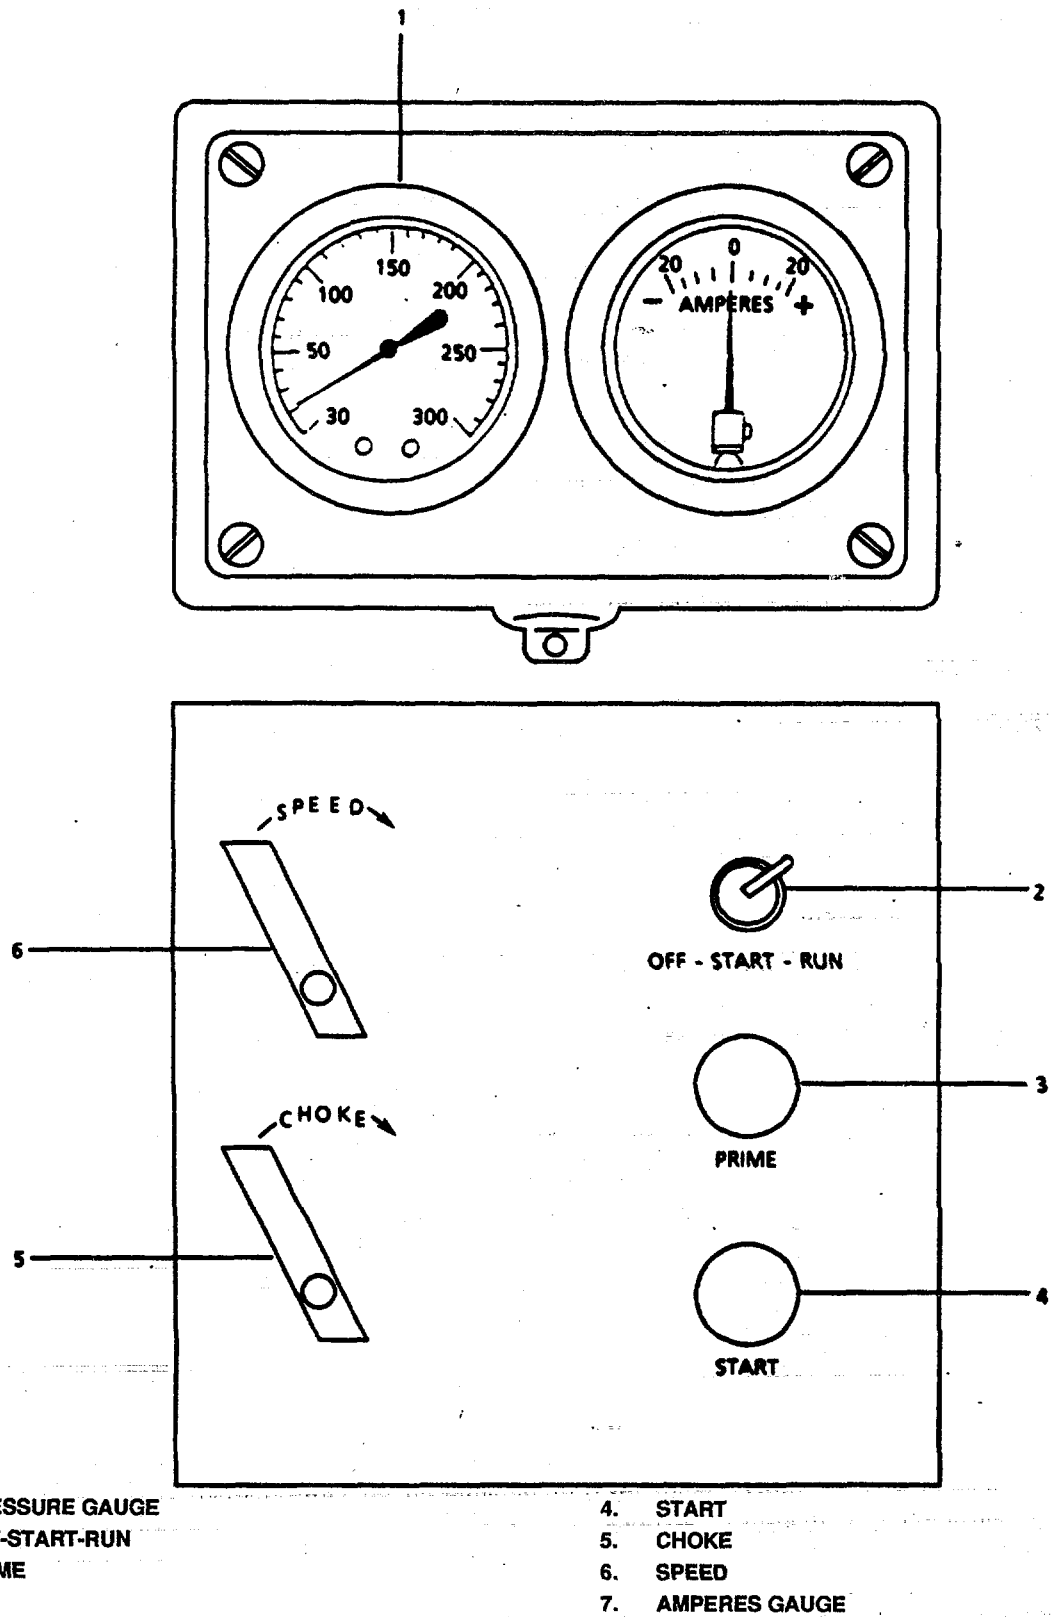

FIGURE 2-201. Portable Firefighting Pump. Gasoline Engine Driven.
- (2) Connect red battery cable to (+) positive pole next to carburetor and black cable to (-) negative pole next to main pump suction inlet.
- (3) Place OFF-START-RUN switch (2, FIGURE 2-201) in start position.
- (4) Advance SPEED control (6) in clockwise direction, to one quarter of full throttle.
- (7) Push in PRIME pushbutton (3, FIGURE 2-201) until pump is primed.
- (8) Slowly turn water discharge valve (3, FIGURE 2-200) clockwise until indicating pressure on gauge (1, FIGURE 2-201) and advance speed control (6) as required.
- (9) Release PRIME pushbutton (3) after priming pump.
- (10) Place OFF-START-RUN switch (2) in RUN position.
- (11) Rotate CHOKE control (5) to full counterclockwise, OFF position.
- (2) Fill pump with water until filler cap is full, replace plug in priming inlet.
- (3) Place OFF-START-RUN switch (2, FIGURE 2-201) to START position.
- (4) Advance SPEED control (6) in clockwise direction, 1/4 full throttle.
- (6) Open water discharge valve (3, FIGURE 2-200) slowly and advance engine SPEED control (6, FIGURE 2-201) as required to attain desired pumping pressure.
- (7) Place OFF-START-RUN switch (2) in RUN position.
- (8) Rotate CHOKE control (5) to full counterclockwise position.
- (1) Rotate SPEED control (6, FIGURE 2-201) to full counterclockwise idle position.
- (2) Place OFF-START-RUN switch (2) in OFF position.
- (1) Clear discharge port of priming pump.
- (4) Advance SPEED control (6) clockwise direction, to one quarter of full throttle.
- (8) Slowly turn water discharge valve (3, FIGURE 2-200) clockwise until indicating pressure on gauge (1, FIGURE 2-201) and advance SPEED control (6) as required.
- (10) Place OFF-START-RUN switch (2, FIGURE 2-201) in RUN position.
(11) Rotate CHOKE control (5) to full counterclockwise, OFF position.
(2) Fill pump with water until filler inlet is full, replace plug (5) in filler inlet.
(3) Connect red battery cable to (+) positive pole next to carburetor and black cable to (-) negative pole next to main pump suction inlet.
(4) Place OFF-START-RUN switch (2, FIGURE 2-201) in start position.
(5) Advanced SPEED control (6) clockwise direction, to one quarter of full throttle.
(7) Slowly turn water discharge valve (3, FIGURE 2-200) clockwise until indicating pressure on gauge (1, FIGURE 2-201) and advance speed control (6) as required.
(8) Rotate CHOKE control (5) to full counterclockwise, OFF position.